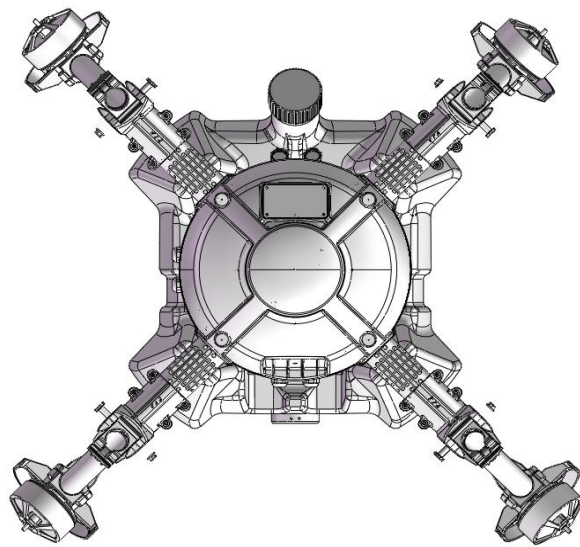

Figure 2-3
- 5) The other three arm should be installed as this method,see figure 2-3.